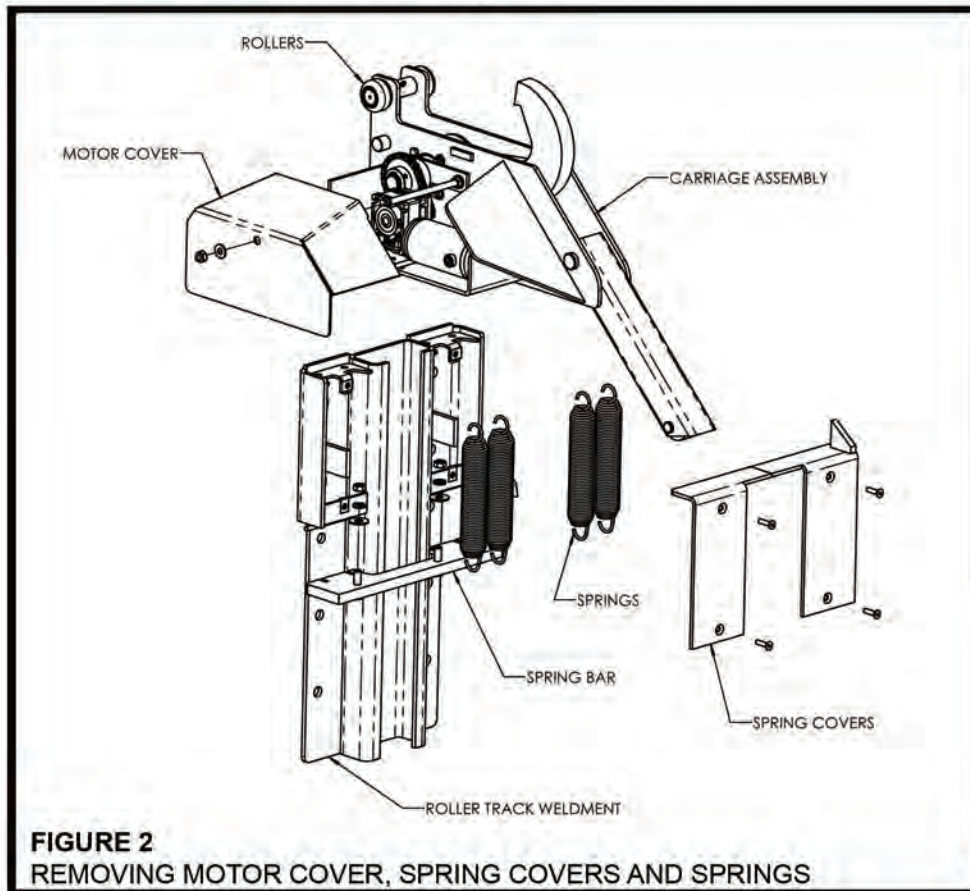

FIGURE 2
2. Remove spring cover and springs. Refer to Figure 2.
3. Remove nuts from spring bar. Refer to Figure 2.
4. Roll vehicle restraint out of roller track plate. Be careful to keep rollers on the axles. Refer to Figure 2.